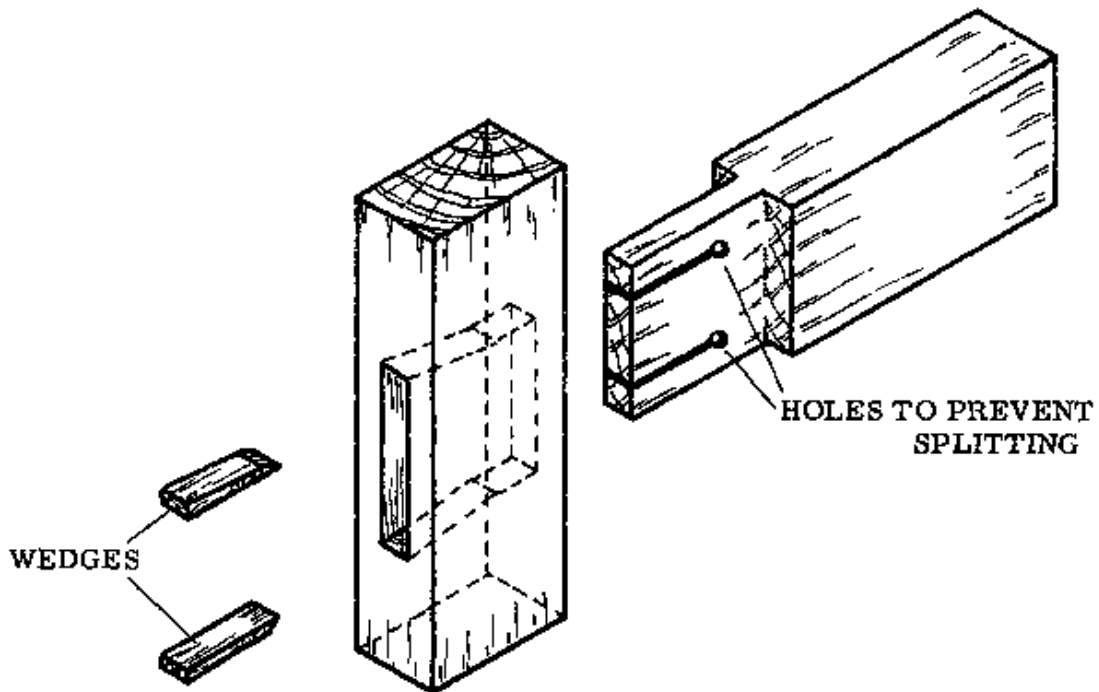

Fig. 2
- Cut the mortice with an allowance of 2 mm in width, tapering from the outside edge to about 2/3rd of its depth (Fig. 2).